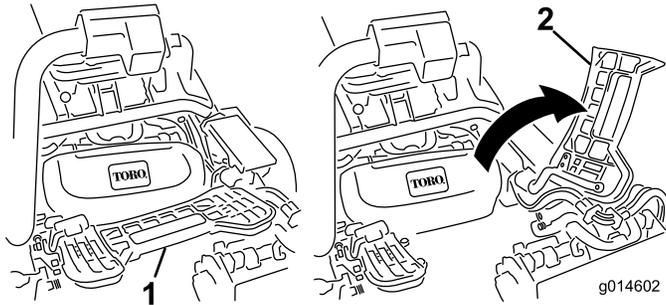

Figure 11
- If installing the center cutting unit, lift up on the foot rest and swing it up, allowing access to the center cutting unit position (Figure 11).